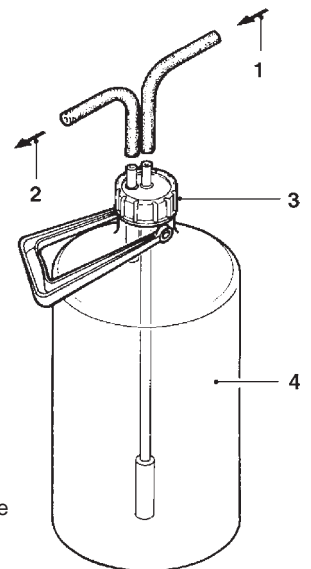

Fig. 16
- remove the hose connected to the air-break from the softener unit fitting (see Fig. 16);